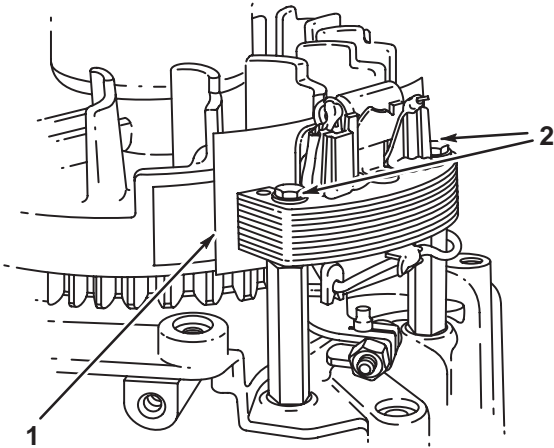

Fig. 109 – Adjusting Air Gap
7. If low or no output, check stator air gap, Fig. 109.
If stator studs were removed, install and torque to 30 in. lbs. (3.4Nm), Fig. 109.
7. Turn flywheel to remove gauge, Fig. 109.